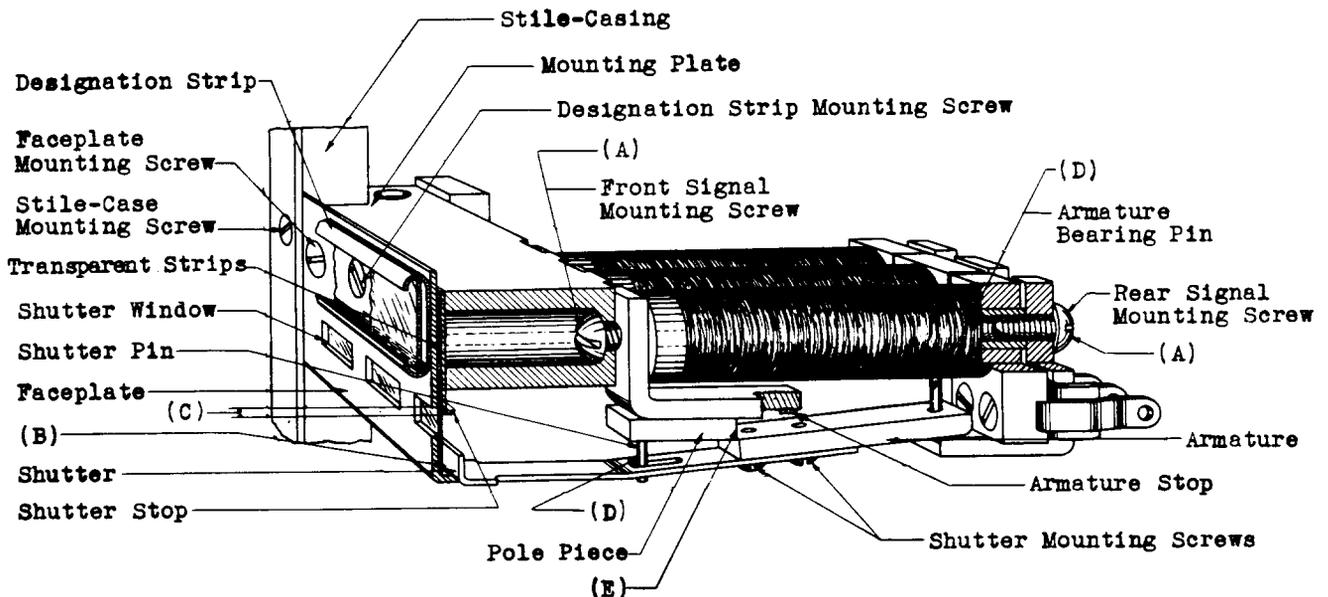

Fig. 1 - 42 Type Signals
- *2.02 Mounting - Fig. 1 (A) - The signal shall be securely fastened to the mounting plate.
- *2.03 Shutter Movement - Fig. 1 (B) - There shall be sufficient clearance between the face (front end) of the shutter and the inside surface of the transparent strip to allow the shutter to move freely. Gauge by eye.
- (b) Fig. 1 (C) - The shutter stop shall extend below the shutter windows approximately the same distance at both ends of the strip.
- *2.06 Armature Movement - Fig. 1 (D) - The armature shall move freely on the shutter pin and armature bearing pin. Gauge by feel and by eye.
- *2.07 Clearance Between Armature and Pole Piece - Fig. 1 (E) - With the play of the shutter assembly taken up toward the rear of the signal there shall be a perceptible clearance (min. .005") between the end of the armature and the pole piece.